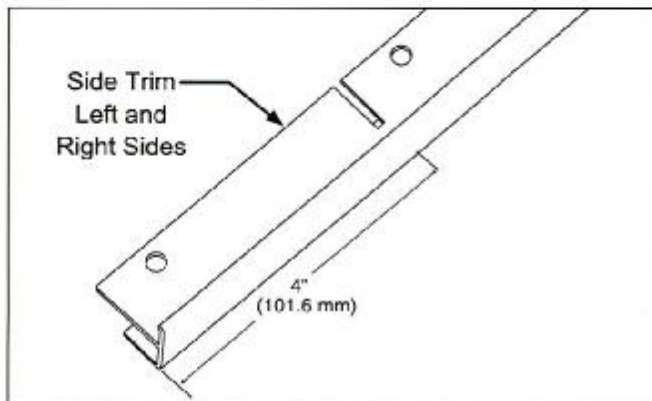

Figure 2.
2. Cut 4" (101.6mm) off the left and right Side Trim using the slot as a guide to make the proper size for a 75" (1905mm) cut-out. (See Figure 2).